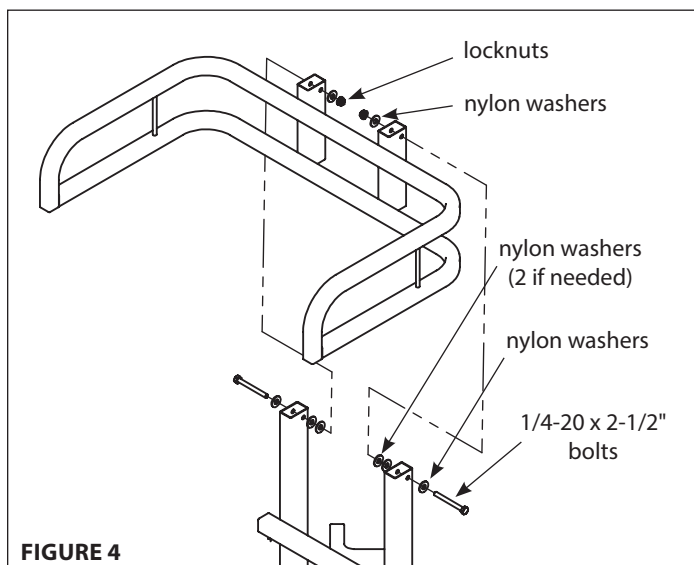

FIGURE 4
1. Attach the seat frame weldment (CXR15) to the seat post (CXR14) using (2) provided 1/4-20 x 2-1/2" bolts, locknuts and (6 to 8) nylon washers. **SEE FIGURE 4. DO NOT tighten all nuts and bolts completely!**